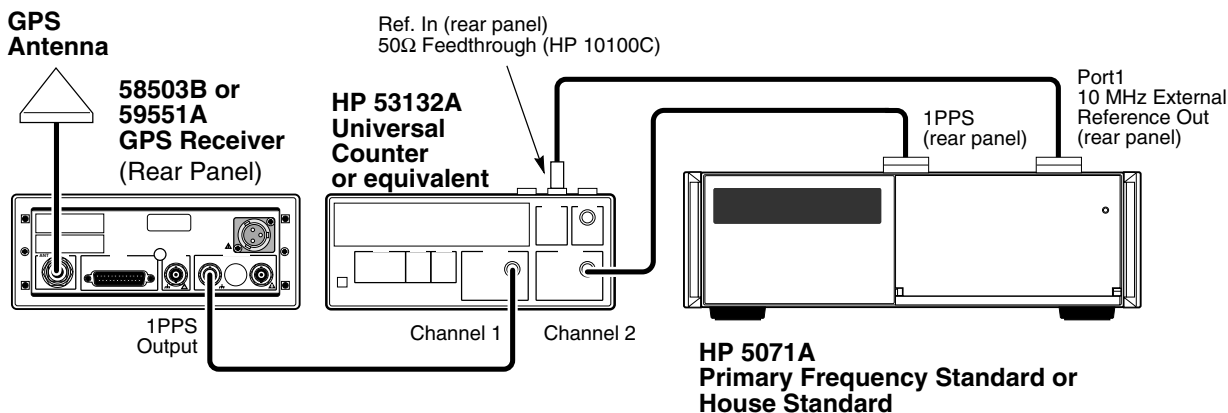

Figure D-6. 10 MHz Frequency Accuracy and 1 PPS Jitter Test Setup (58503B GPS Receiver shown)
- 3 Connect the 10 MHz reference output from the reference 1 PPS source (HP 5071A or another stable, traceable house standard) to the rear-panel **Ref In** of the Universal Counter, as shown in Figure D-6, to provide an external timebase for the Counter.
- 3 Connect the 10 MHz reference output from the reference 1 PPS source (5071A or another stable, traceable house standard) to the rear-panel **Ref In** of the Universal Counter, as shown in Figure D-6, to provide an external timebase for the Counter.